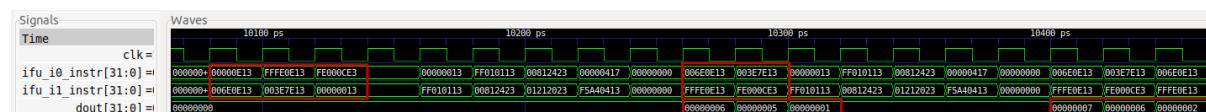

Figure 90. Execution of the three Arithmetic-Logic instructions from the example
14. Zoom in around 10100 ps, where you will analyse the execution of the three arithmetic-logic instructions of the first and second iterations of the loop (Figure 90). The first two instructions (`li t3, 0x0 = 0x00000E13` and `addi t3, t3, 6 = 0x006E0E13`) are fetched first, one in each way of the superscalar RISC-V processor as shown on signals `ifu_i0_instr[31:0]` and `ifu_i1_instr[31:0]`. The next two instructions (`addi t3, t3, -1 = 0xFFFFE0E13` and `andi t3, t3, 3 = 0x003E7E13`) are fetched in the next cycle. The last two instructions are fetched (`beq zero, zero, REPEAT = 0xFE000CE3` and `nop = 0x00000013`) in the next cycle.
Because of the SweRV core's 9-stage pipelined processor and dependencies, the effects of the instructions are seen eight or more cycles after the instructions are fetched. Eight cycles after the first and second instructions are fetched, $x28(t_3)$ becomes 0 (which it was already) because of the first instruction: `li t3, 0x0 (0x00000E13)`. One cycle later, $x28$ is updated to 0x6 because of the next instruction: `addi t3, t3, 6 (0x006E0E13)`. Next, $x28$ updates to 5 because of the next instruction: `addi t3, t3, -1 (0xFFFFE0E13)`. Finally, $x28$ updates to 1 because of the next instruction: `andi t3, t3, 3 (0x003E7E13)`. Then the next two instructions are fetched: `beq zero, zero, REPEAT (0xFE000CE3)` and `nop (0x00000013)`, the branch is taken and the loop repeats. This is as predicted in Figure 89. Using a similar reasoning, you can analyse the second iteration, which is also highlighted in Figure 90 and predicted in Figure 89.